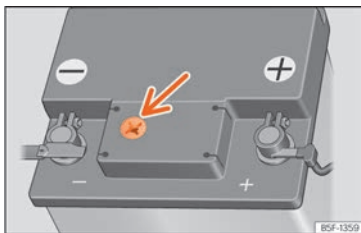

Fig. 244 Sight glass on the top of the 12 volt battery (schematic representation).
- Check the colour display in the sight glass on the top of the battery >>> **Fig. 244**.